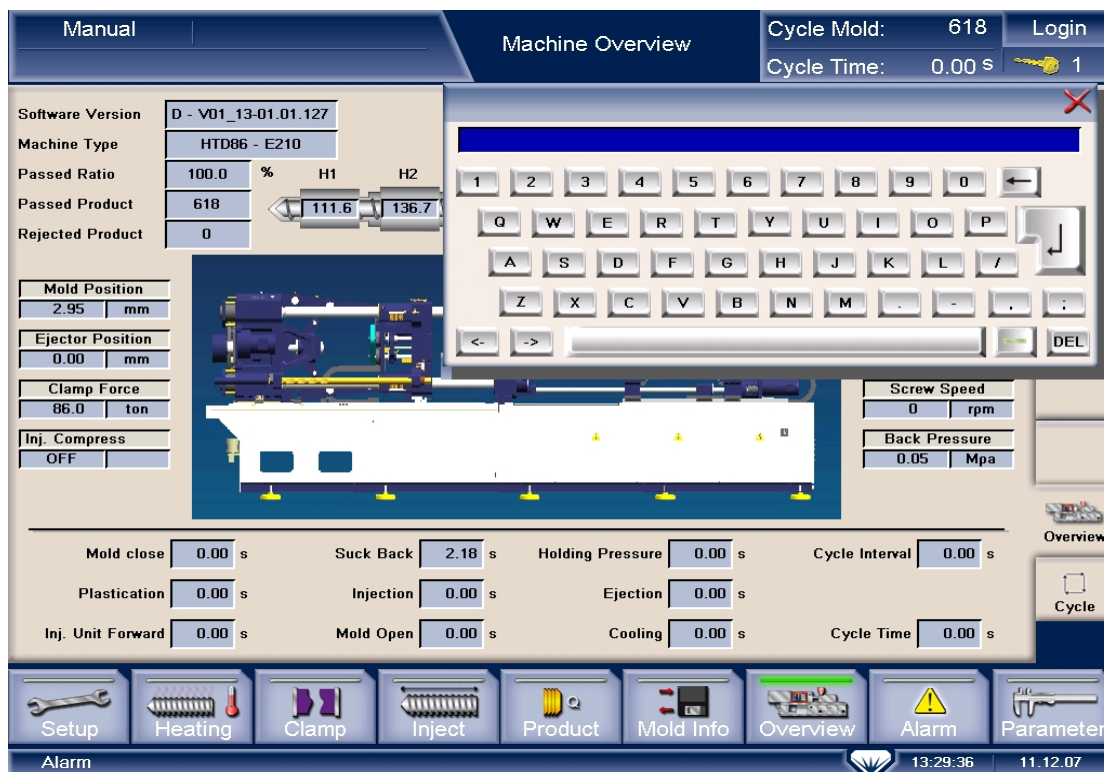

Fig 6.2.5(1) login the fourth level
- (1)、 Turn on the main power supply. (Don't turn on the button 'Motor on' on the keyboard.)
- (2)、 Click 'login' on the screen;
- (3)、 Input login passwords '020808' to the dialog box;
- (4)、 Click 'Enter'.
- (See fig6.2.5(1))